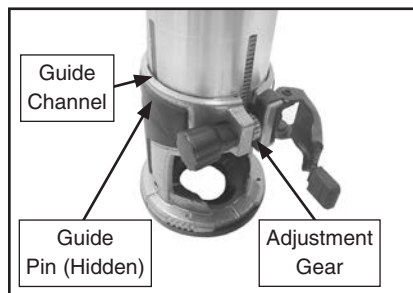

Figure 3. Fixed base with gear.
3. Attach router motor to base by aligning guide channel with guide pin (see **Figure 3**).